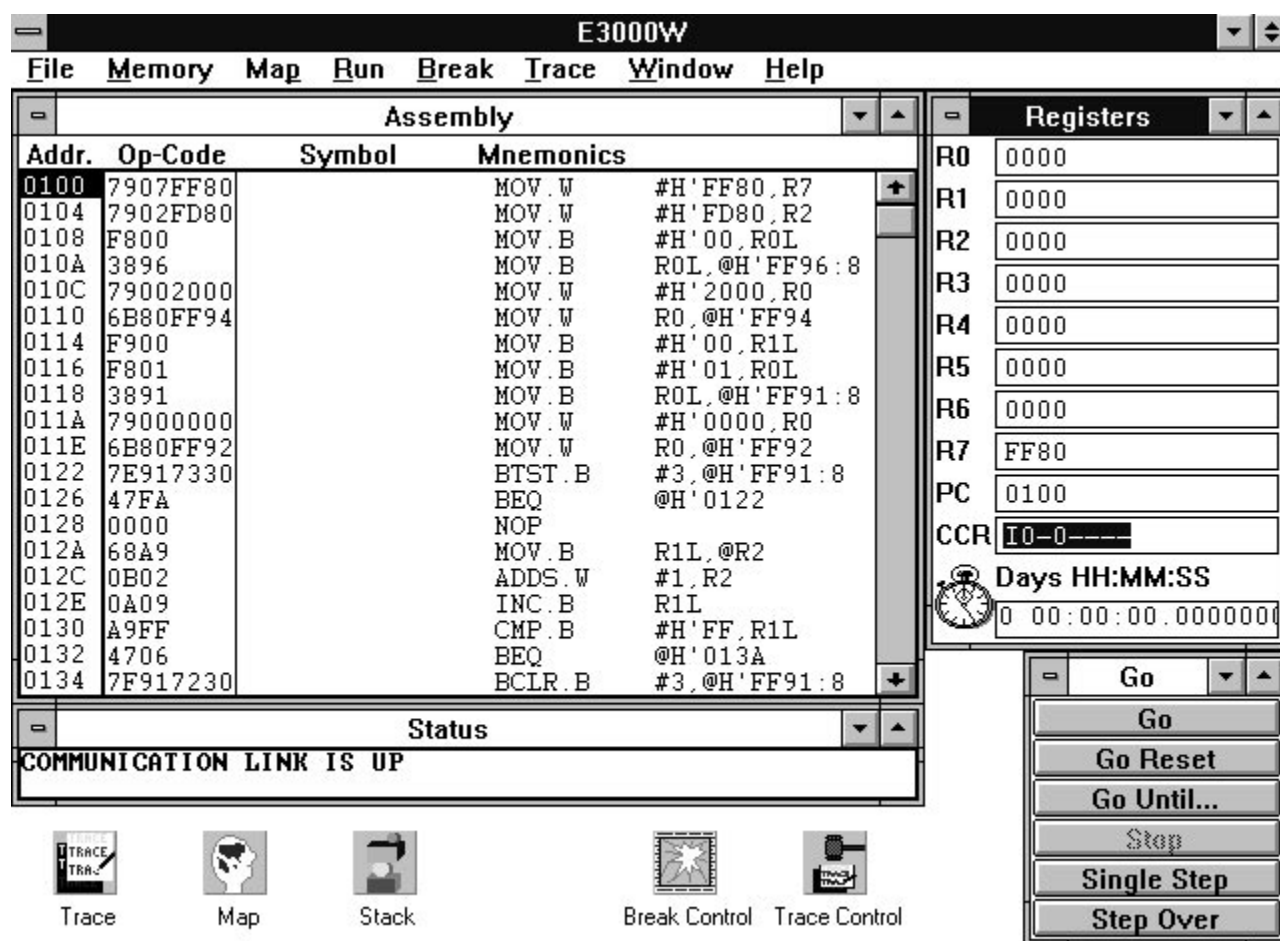

Figure 8.
program counter (PC) must point to the start address of the program. This step is done by moving the mouse pointer to the box containing the value of the PC, holding down the left mouse button, dragging the pointer across the PC register value, and entering the start address of the program. Figure 8 shows a typical E3000 application window just before running the program.